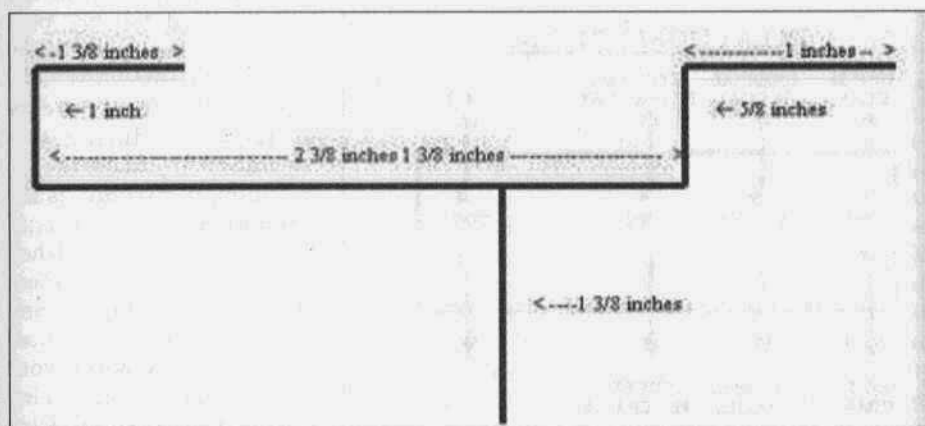

Figure 3.
1) Fabricate filter and relay support PCB. See Figure 3.